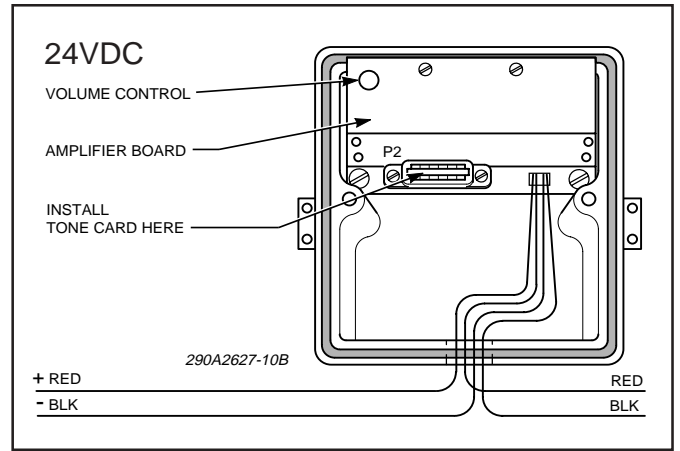

Figure 3. Tone/Connector Installation and Volume Control Location.
b. Plug the desired tone card into the socket as shown in figure 3.
b. Plug the desired PTCK connector card (purchased separately) into the socket as shown in figure 3.
A. After installation is complete, be sure to test the system to verify that each amplified speaker operates satisfactorily. If it is found that the unit is too loud for its location, an internal volume control can be adjusted. Remove the housing cover and insert a slotted screwdriver with an 1/8" blade into the hole shown in figure 3. Gently turn control to desired loudness. Reinstall the housing cover.